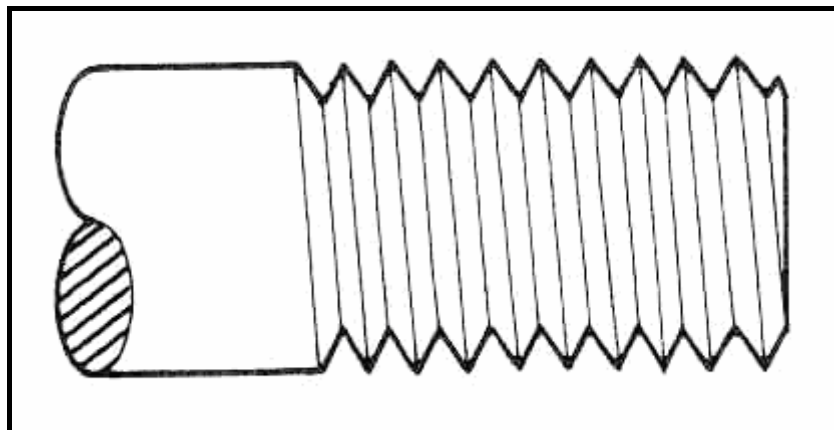

**FIGURE 1.6**
1.16 What is the name of the series of pulleys with attached rope or chain, as shown in FIGURE 1.6?